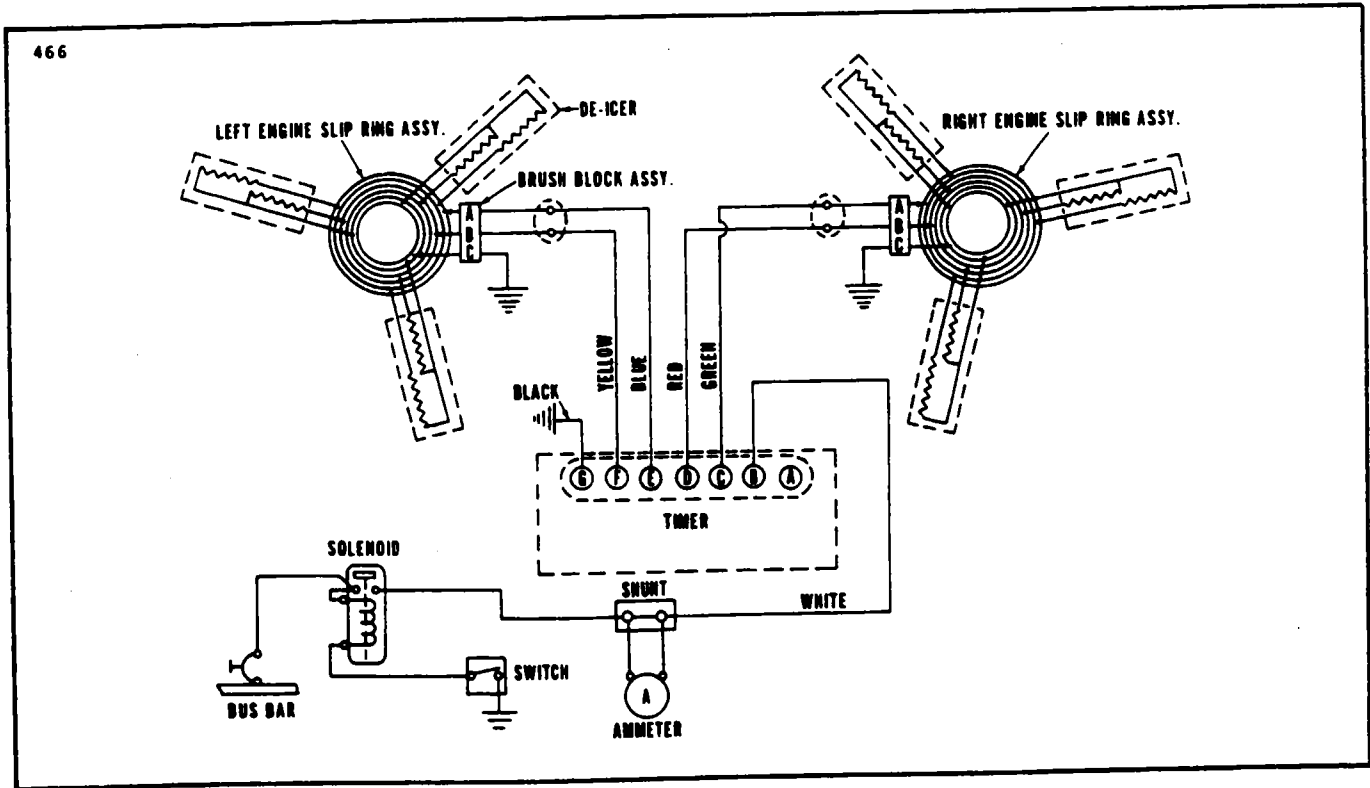

Figure 14-11. Wiring Schematic, Electric Propeller Deicing System
h. System Wiring: With deicer system operating, have assistant observe ammeter while visually inspecting and physically flexing wiring from brush blocks through firewall, to timer, to ammeter, to switch and to aircraft power supply. The ammeter will flicker as the timer switches approximately every 34 seconds in the cycle. Jumps or flickers at other times indicates loose or broken wiring in the area under examination at that moment. In such case, check continuity through affected harness, while flexing and prodding each wire in the area that gave initial indication of trouble. Use the wiring diagram in Figures 14-11 to trace circuitry.
a. Check the electrical resistance of each of the two elements within the deicer. Refer to Schematic, Figure 14-11, and Resistance Readings. Refer to Table XIV-V.
c. Identification of the circuits within the element may be confirmed by referring to the resistance values and schematic diagram, Figure 14-11. Proper identification is necessary in order to make the system cycle properly and to obtain the correct amperage values during system operation. Minimum and maximum ohms between common ground and either of the other terminals is 4.58 to 5.26.